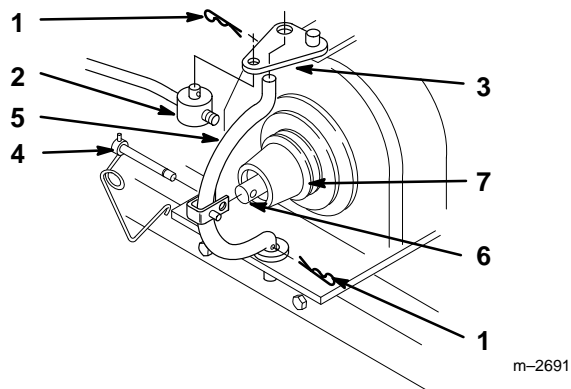

Figure 9
11. Remove hairpin cotters from trunnion and bottom of yoke (Fig. 9).
12. Unlatch and remove clevis pin that secures yoke assembly to clutch shaft. Pivot yoke out and forward to remove from clutch shaft and engagement plate (Fig. 9).
13. Place belt in outer pulley groove (Fig. 9).
14. Assemble yoke and engagement plate and attach clevis pin, trunnion and hairpin cotters to secure (Fig. 9).